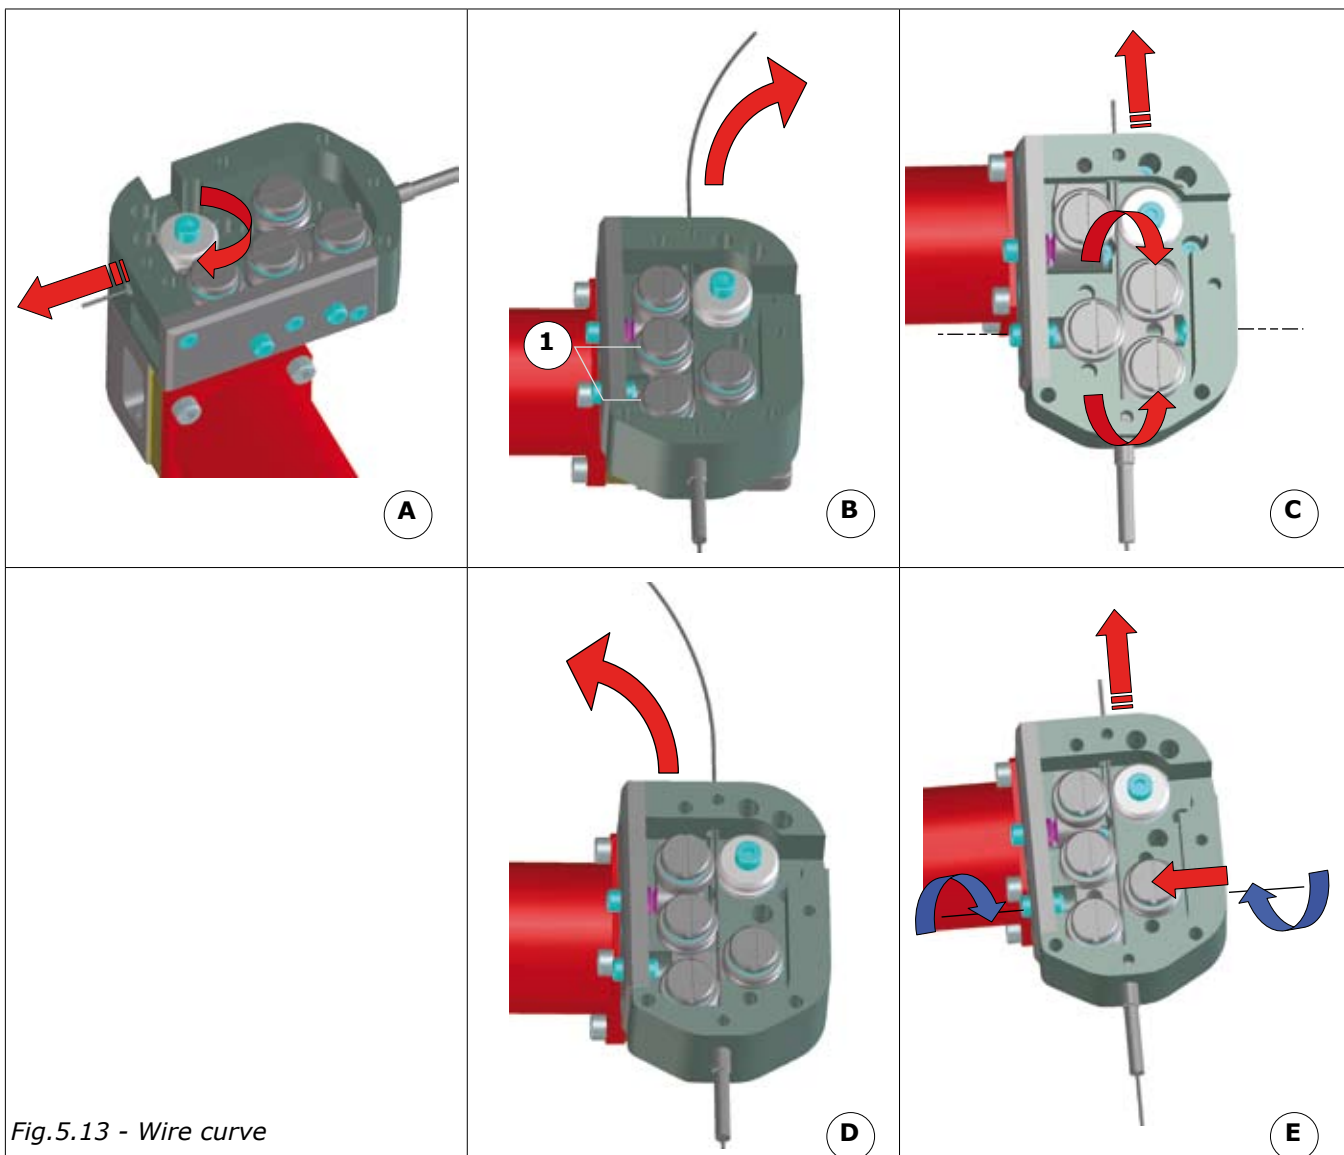

Fig.5.13 - Wire curve
- Feed a few centimetres of wire, then check the curve (Fig.5.13 - View A).
- If the wire unwinds on the side opposite to the two straightening rollers (Fig.5.13 - View B):
- Reverse the straightening rollers on the side (Fig.5.13 - View C)
- If the wire unwinds on the same side as the two guide rollers (Fig.5.13 - View E):